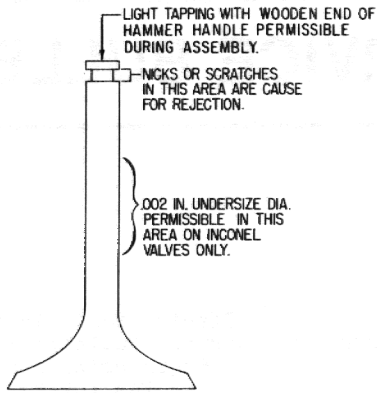

Figure 1. Diagram of Valve Showing Area for Inspection
a. Remove valves from cylinder and clean to remove carbon and examine visually for physical damage, damage due to face burning or excessive corrosion in stem to head fillet area. Valves that indicate damage of this nature must not be reused. Do not reuse valves in which stem diameters midway of valve measure less than that measured at key end; excepting inconel valves which may be .002 undersize on stem diameter as shown in figure 1.